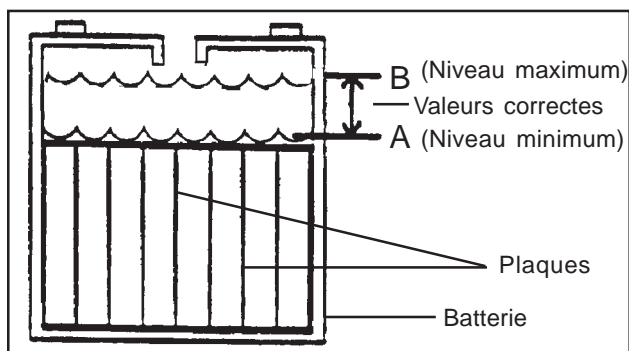

Figure 5
4. After charging, top off the batteries. **NOTE: USE DISTILLED WATER ONLY. THIS SHOULD BE DONE AFTER CHARGING.** The maximum level is within 1/4 inch of the bottom of the tube in each cell. See figure 5 B. For instructions on how to charge the batteries, see "How To Charge The Batteries" below.